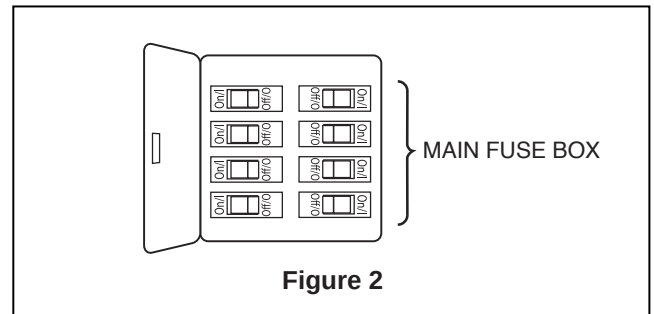

Figure 2
- ☐ 2. Install the remaining two screws removed in step 9 of page 8 to secure the ceiling canopy to the ceiling bracket. (Figure 2)